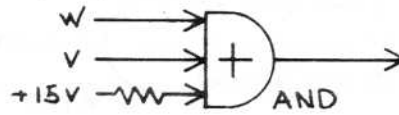

Figure 25
The main logic of the Select-A-Rhythm comprises those circuits which supply the pulse inputs to the selection system. There are three types of outputs: (1) the output from the differentiation circuits and (2) "AND" logic outputs, and (3) "OR" logic outputs. There are also two sustain outputs, that is, circuits whose outputs are present for more than 1 time unit. All the outputs from the main logic are negative pulses with the exception of the two sustain outputs, which are positive. The 40 logic outputs are shown in Figures 25 through 64. Logic output numbers 2 and 3 are the sustain outputs. In the case of #2 logic, there is a positive output only when inputs W and V are both positive; in the case of logic output #3 (which is simply the binary counter output W) there is an output only when W is positive.
Figure 25 through 64 show the logic outputs of the Select-A-Rhythm Commutator and Logic assembly according to numerical coding. For the times at which these outputs occur, refer to Logic Output Timing Chart, Figure 25.